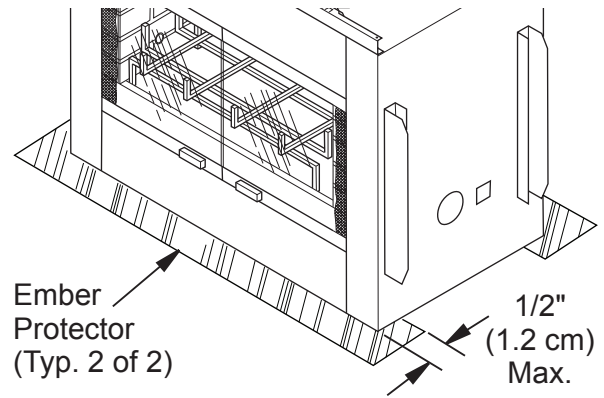
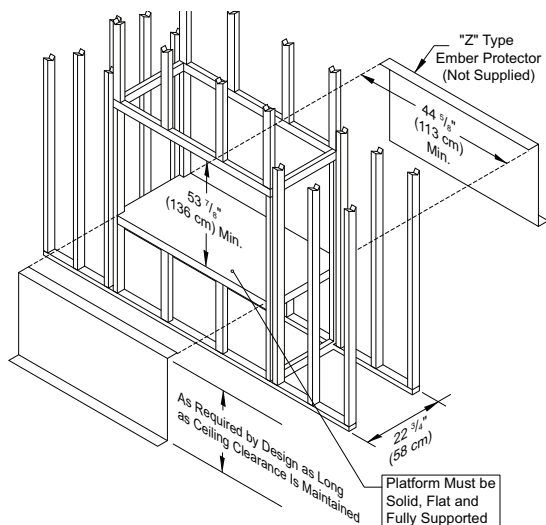
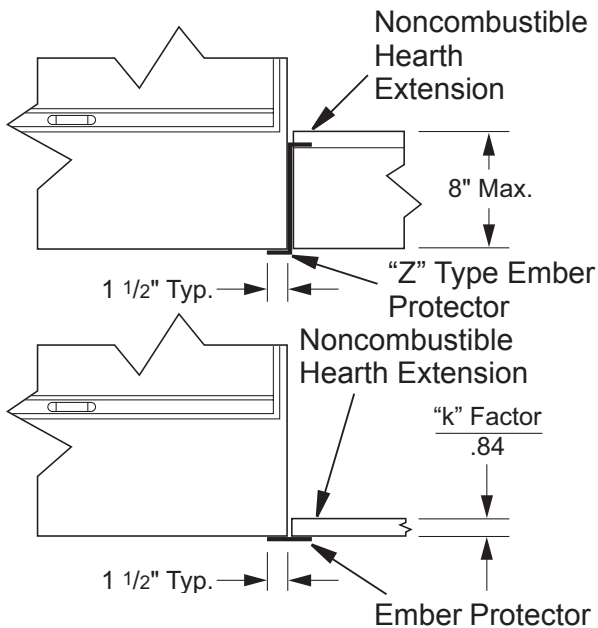

Figure 8 - Ember Protectors
Figure 7 - Framing Firebox with "Z" Type Ember Protectors
Figure 11 - Raised Hearth Extension
5. Before securing firebox to prepared framing, ember protector (provided) must be placed between hearth extension (not supplied) and under bottom front edge of firebox to protect against glowing embers (see Figure 8 and Hearth Extensions). If firebox is to be installed on a raised platform, a Z-type ember protector (not supplied) must be fabricated to fit your required platform height (see Figure 7). The ember protector should be made of sheet metal (28 gauge minimum) to prevent corrosion.
Thermal conductivity "k" of materials can be obtained from manufacturer or supplier of noncombustible material. If hearth extension is to be raised, a "Z" type ember protector must be used (see Figure 7 and Figure 11, page 7).